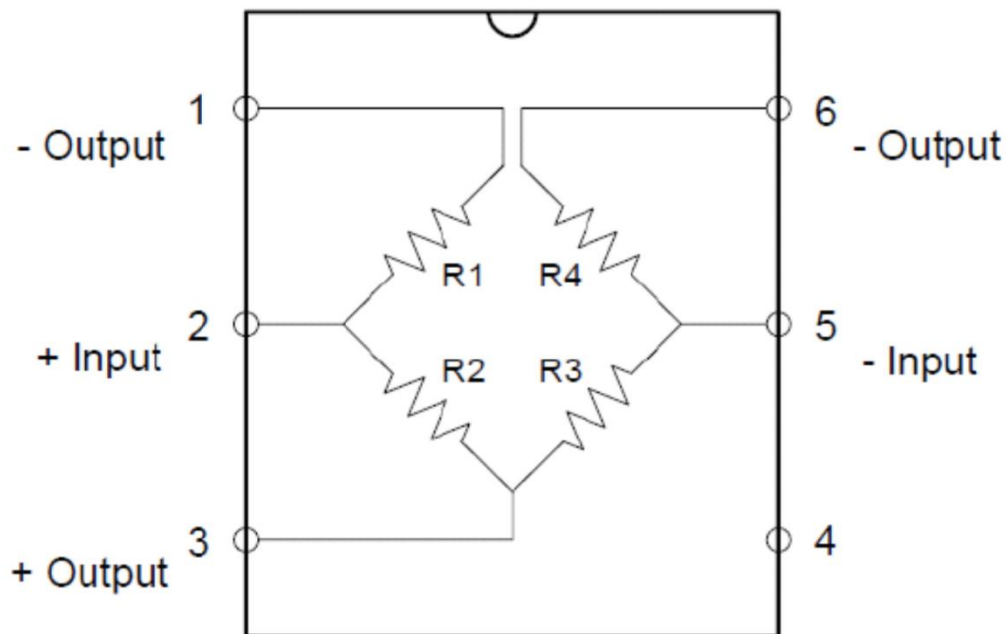

Figure 3: Wheatstone bridge within the pressure transducer [1]
The pressure sensor contains a pressure transducer, which changes its resistance (R_1) in response to the applied pressure, configured in a Wheatstone bridge, as shown in Figure 3. The output of the sensor is the voltage difference between the two legs of the bridge. To measure this difference without altering it requires a differential amplifier with a very high input impedance. An instrumentation amplifier meets these requirements: it is a differential amplifier, usually with a programmable gain, that has a huge input impedance, usually in excess of 100 megohms.
- In Figure 3, +5V will be supplied to pin 2 and pin 5 will be grounded. The output is the voltage between pins 3 and 1 (pins 1 and 6 will be shorted together). Derive an equation for the output voltage in terms of the resistors. Solve for the unknown resistor R1. Why would you use a Wheatstone bridge to measure an unknown resistance instead of using a simple voltage divider?